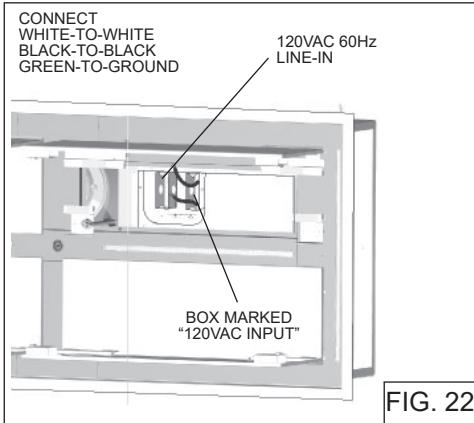

FIG. 22
4. From the electrical box marked "120VAC Inlet", remove (2) screws that secure the cover to the metal wiring box. Fig. 22.